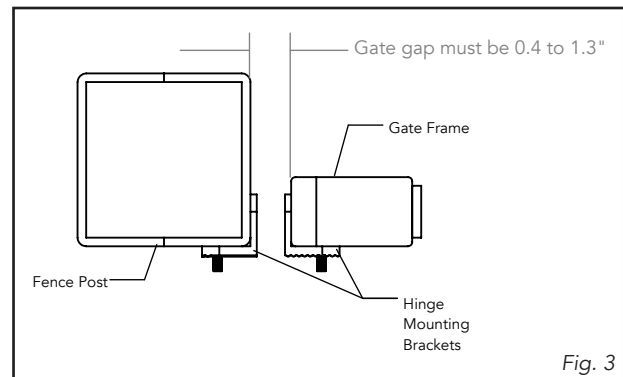
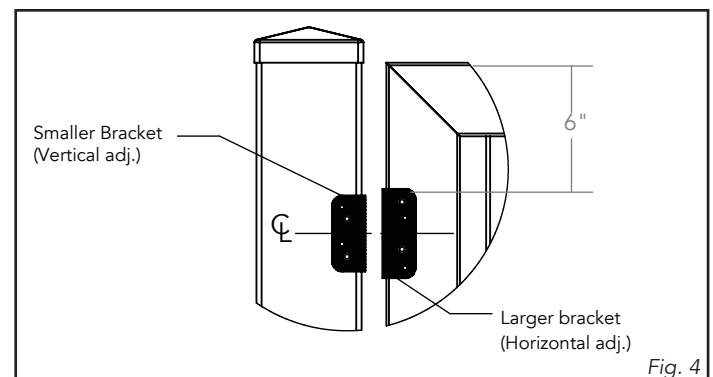

Fig. 3
Fig. 4
2. The brackets should be positioned on the outside surfaces of the posts with the gate in the closed position (Fig. 3). The top edge of the upper hinge should be mounted within 6" of the top surface of the top rail, and the bottom edge of the lower hinge should be mounted within 6" of the lower surface of the lower rail (Fig. 4). In applications where additional hinges are used, they should be evenly spaced between the upper and lower hinges. The mounting brackets with horizontal locking grooves are for the vertically adjustable side of the hinge, while the brackets with the vertical locking grooves are for the horizontally adjustable side of the hinge.